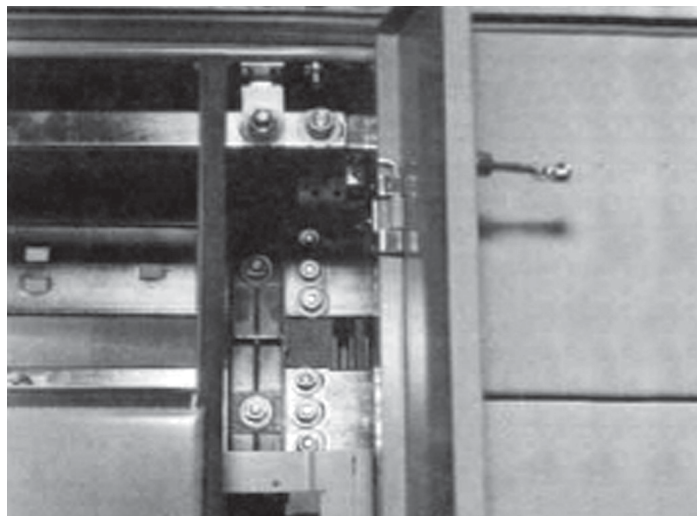

Figure 5. Access to left-hand splice plate connections
4. Remove the upper horizontal wireway door from the structure on the right side of the left-hand (LH) section, and remove the two-piece wireway barrier to provide access to the ends of the bus in that section.
8. Bolt the horizontal bus splice plates to the bus in the left-hand structure, torquing all bus splice bolts to 360 pound-inches (30 pound-feet). See **Figure 5**.